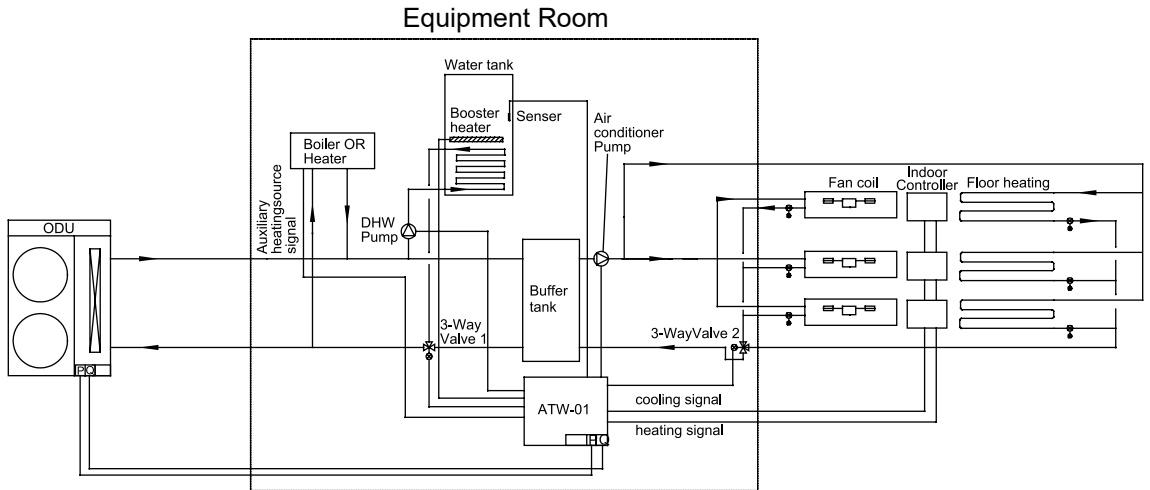

Fig.3 DHW controlled by YR-E27
- YR-E27 together with DHW temperature sensor (Connected at CN31) which will be inserted into DHW tank while Outdoor PCB BM1-1 will be set to OFF (Fig.3);